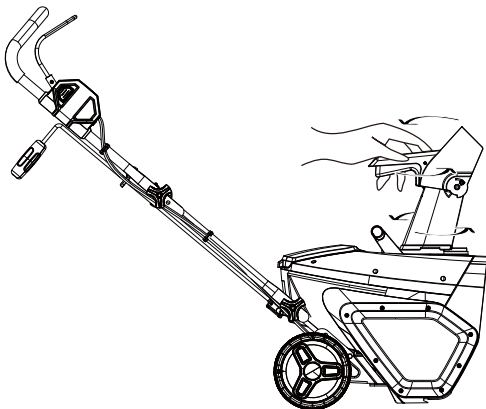

Fig. 13
- Using the chute deflector handle (See Fig. 13)